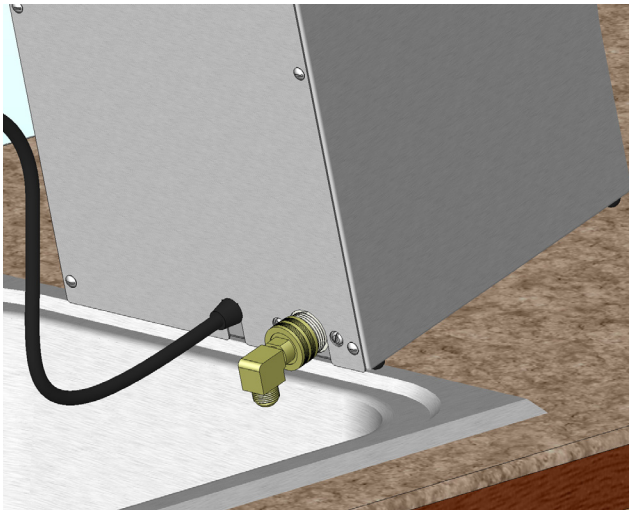

FIG 9-1
8. Tilt brewer back towards sink slightly during this procedure! FIG. 9-1